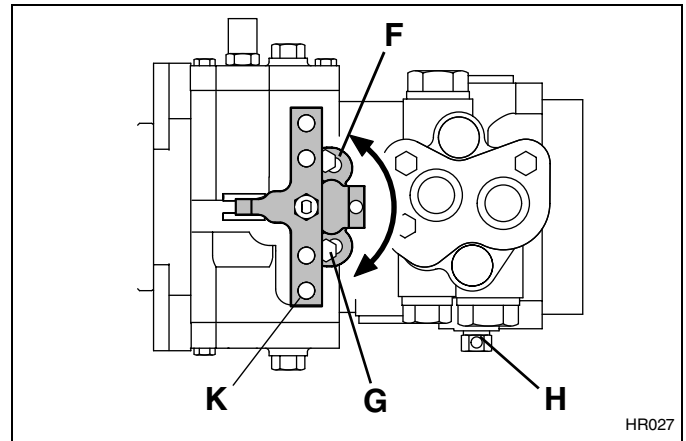

Figure 3H
1. Make sure return arm (**K-Figure 3H**) on pump is adjusted to neutral, Section 3.7.